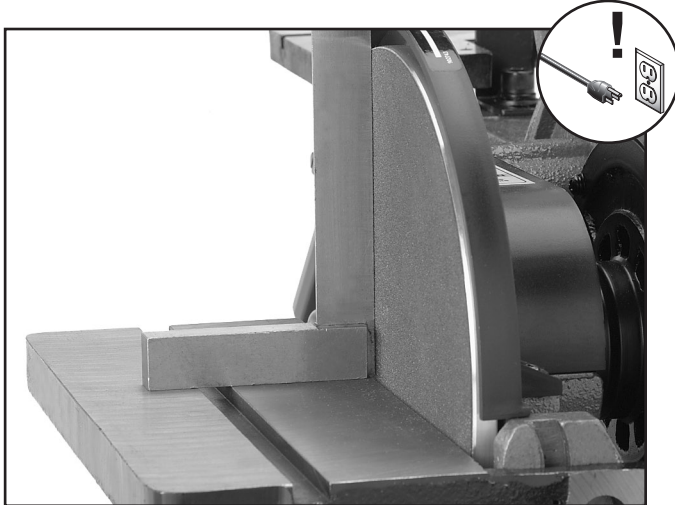

Figure 34. Using a machinist's square to adjust the sanding disc table to 90°.
2. Place a machinist's square or other 90° measuring tool against the disc table and sanding disc (see **Figure 34**).